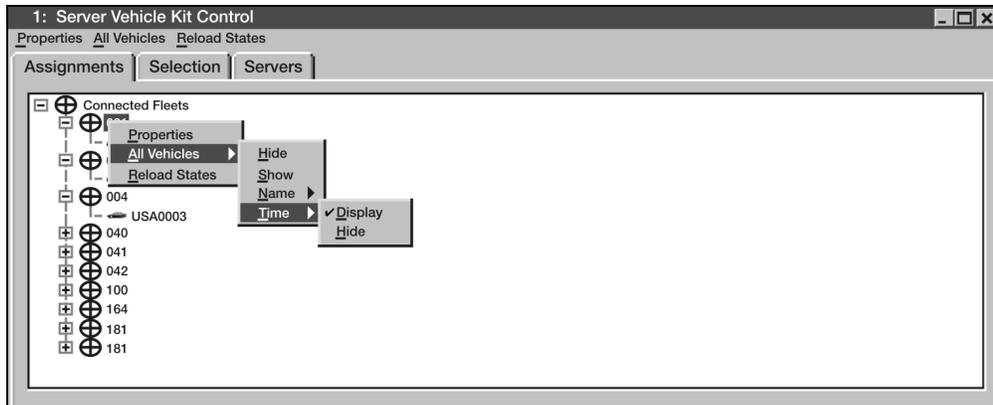

Figure 3-48. Hiding and Showing Position Report for Fleet of Vehicles
- 5) Right click on the fleet name, and select All Vehicle -Time - Display or All Vehicles - Time – Hide (see Figure 3-48).